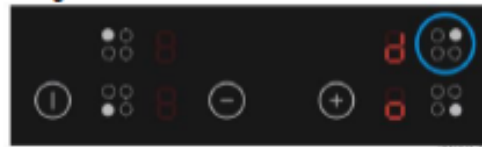

Fig. 54
3.1 Using the power key of the right rear zone activates the demo mode. Select "d" in the upper display and "o" in the lower (*) (see Fig. 54).